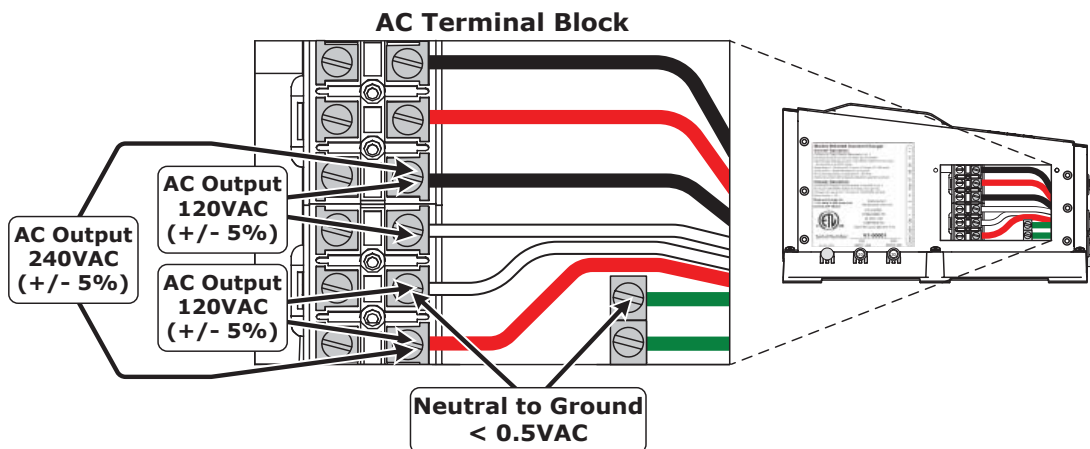

Figure 2-17, AC Voltage Checks
5. Check the AC output voltage of the inverter by connecting an AC voltmeter to the output terminals as shown in Figure 2-17, and then verify the correct output voltages.